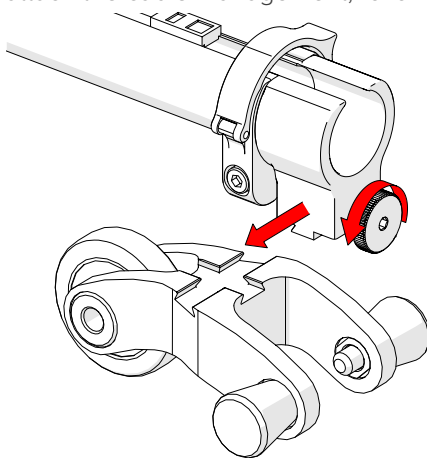

Fig. 89 - Loosen and slide on
1. Loosen the knob on the cable management dovetail mount. Slide the mount onto the dovetail link (Fig. 89).